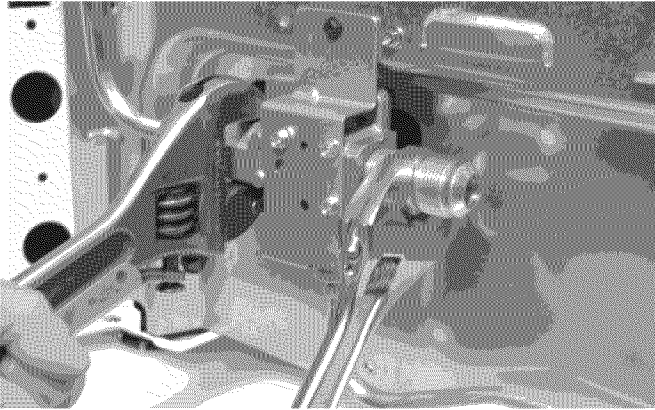

Fig. 4d
**NOTE:** Be sure to **stabilize** the left side of the pressure regulator with adjustable wrench before tightening ANY fittings to the pressure regulator (Refer to Fig. 4d).